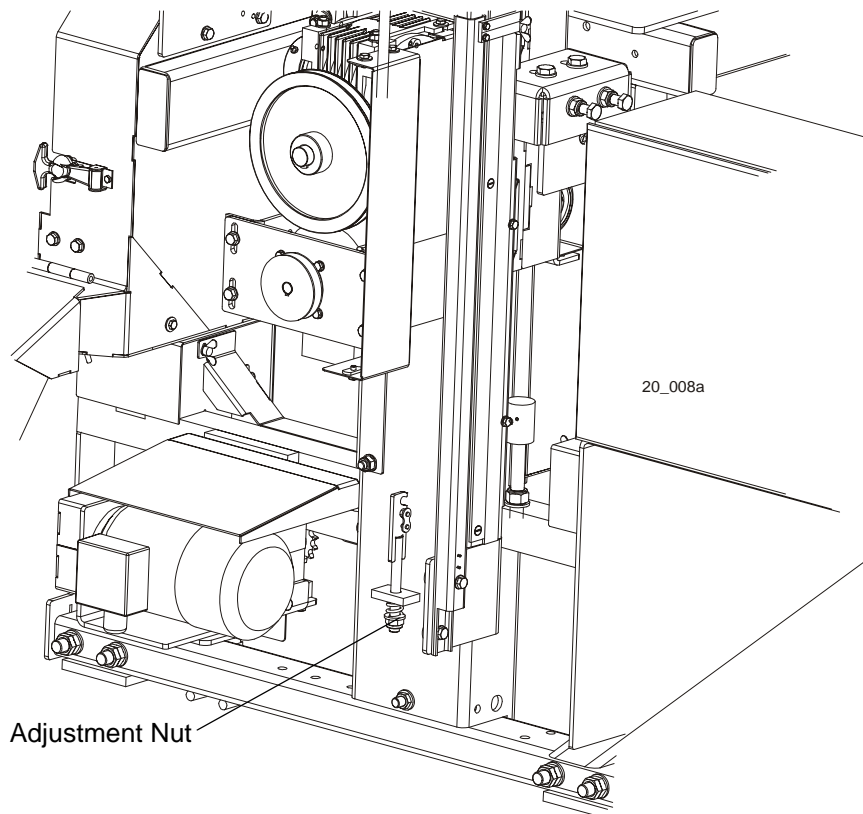

FIG. 3-8
1. Adjust the up/down chain tension as needed. Measure chain tension with the cutting head all the way to the top of the vertical mast. Secure the carriage with a chain at the top, or shim it underneath. Using the adjustment nut shown in Figure 3-8, adjust the chain tension so that there is 1" (2.5 cm) deflection in the center of the chain with a 5 lbs. (2.3 KG) deflection force.
See Figure 3-8. Use the adjustment nut shown below to tension the chain.